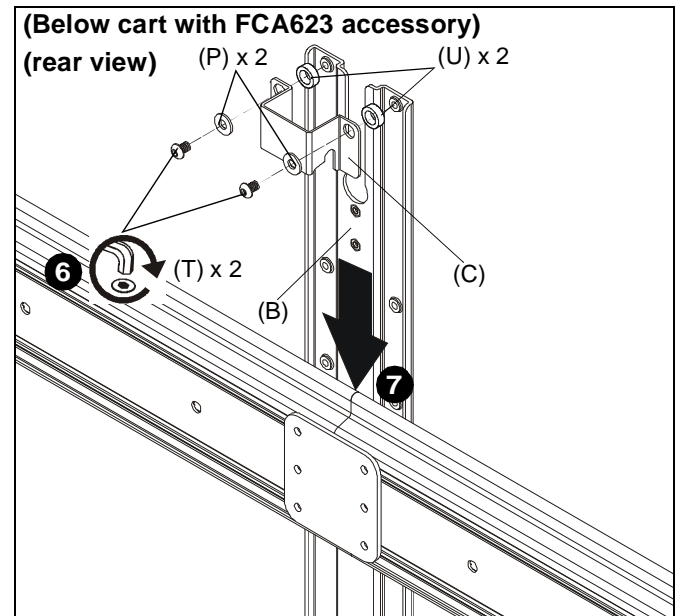

Figure 11
6. Use two 1/4-20 x 7/16" button head cap screws (T), two large washers (P) and two 3/5" spacers (U) to secure support bracket (C) to main bracket (B). (See Figure 11)
7. Slide main bracket (B) onto front of cart/ceiling mount head assembly until support bracket (C) rests on top of head assembly. (See Figure 11)